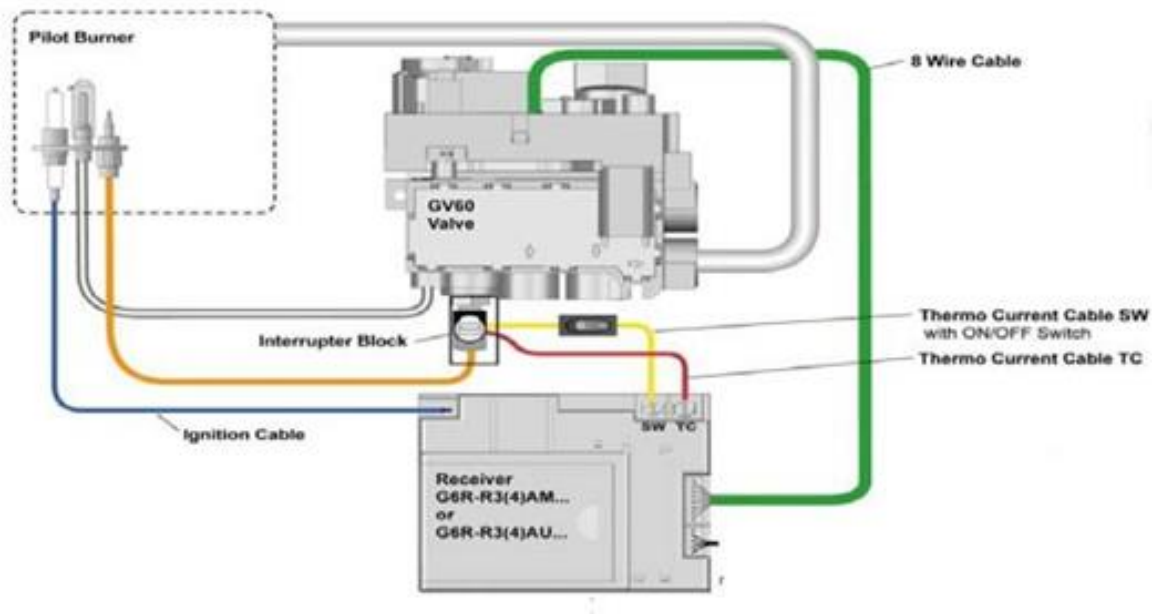

Figure 28: Valve/Receiver Wires and Interrupter Block
6. Verify that all wire connections are tight. Then, check that the interrupter block is screwed in tightly but not too tightly (tightening the interrupter block too much will break it). Refer to Figure 28 on page 129 for details.
- b) Disconnect the wire for the spark wire. Refer to Figure 28 on page 129 for details.
Perform these steps to check the thermocouple. Refer to Figure 28 on page 129 for details.